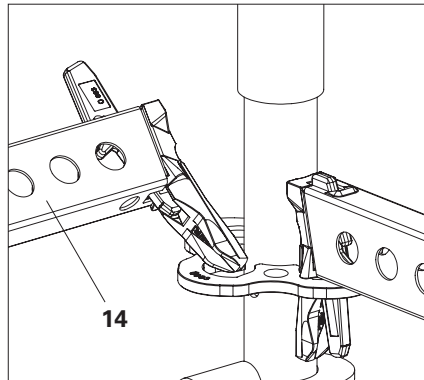

Fig. A3.04a
1. Place Horizontal Ledger UH (**14**) or UHV diagonally on both rosettes and set vertically. (Fig. A3.04a)